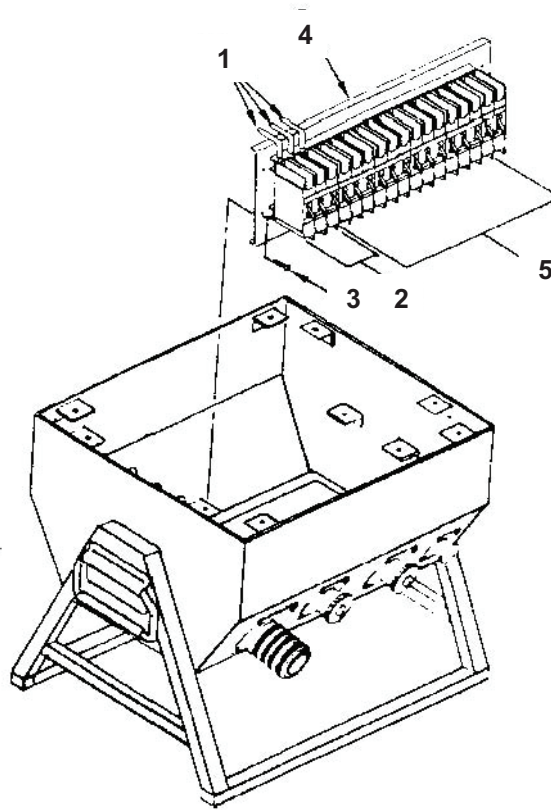

Figure 3. PDISE Circuit Breaker Assembly
4. Tag and disconnect wiring J1-A, B, C (Figure 3, Item 1) from circuit breaker 1 (Figure 3, Item 2).
5. Remove screws (Figure 3, Item 3) securing circuit breaker assembly (Figure 3, Item 4).
6. Tag and disconnect wiring from circuit breakers {3, 4, 5, 6, 7, 8} (Figure 3, Item 5) and J2-A, B, and C from bus bars L1, L2, and L3.
7. Tilt circuit breaker assembly (4) clockwise for exposure.
21. Install circuit breaker assembly (Figure 3, Item 4) and secure with screws (Figure 3, Item 3).